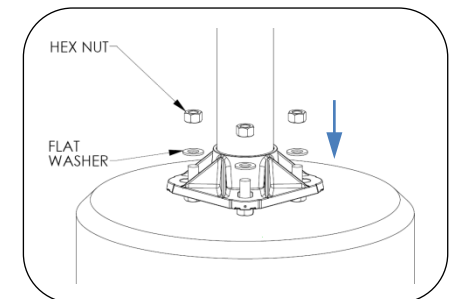

Fig. 5 – Install pole
1. Lift the light pole into position over the installed anchors (refer to Rama anchor kit installation guide) as shown in Fig. 5. Ensure that the base plate is resting on all four washers.
2. Install washer and hex nut as shown in Fig. 5.